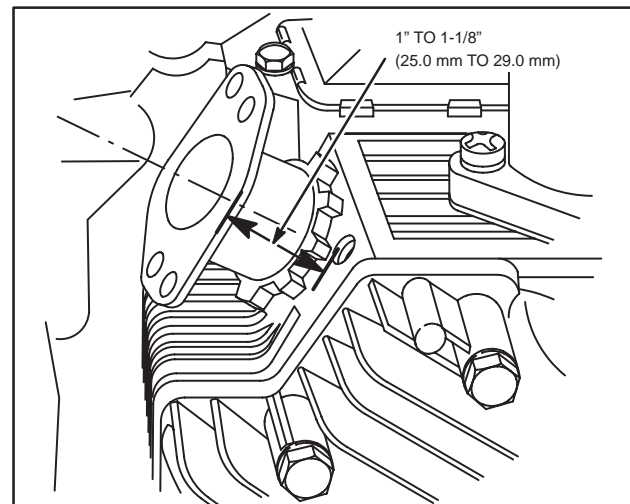

Fig. 21 – Measure Adapter
3. Flange should be 1" to 1-1/8" (25.0 mm to 29.0 mm) from cylinder face, Fig. 21. Tighten lock nut after muffler is installed and positioned.